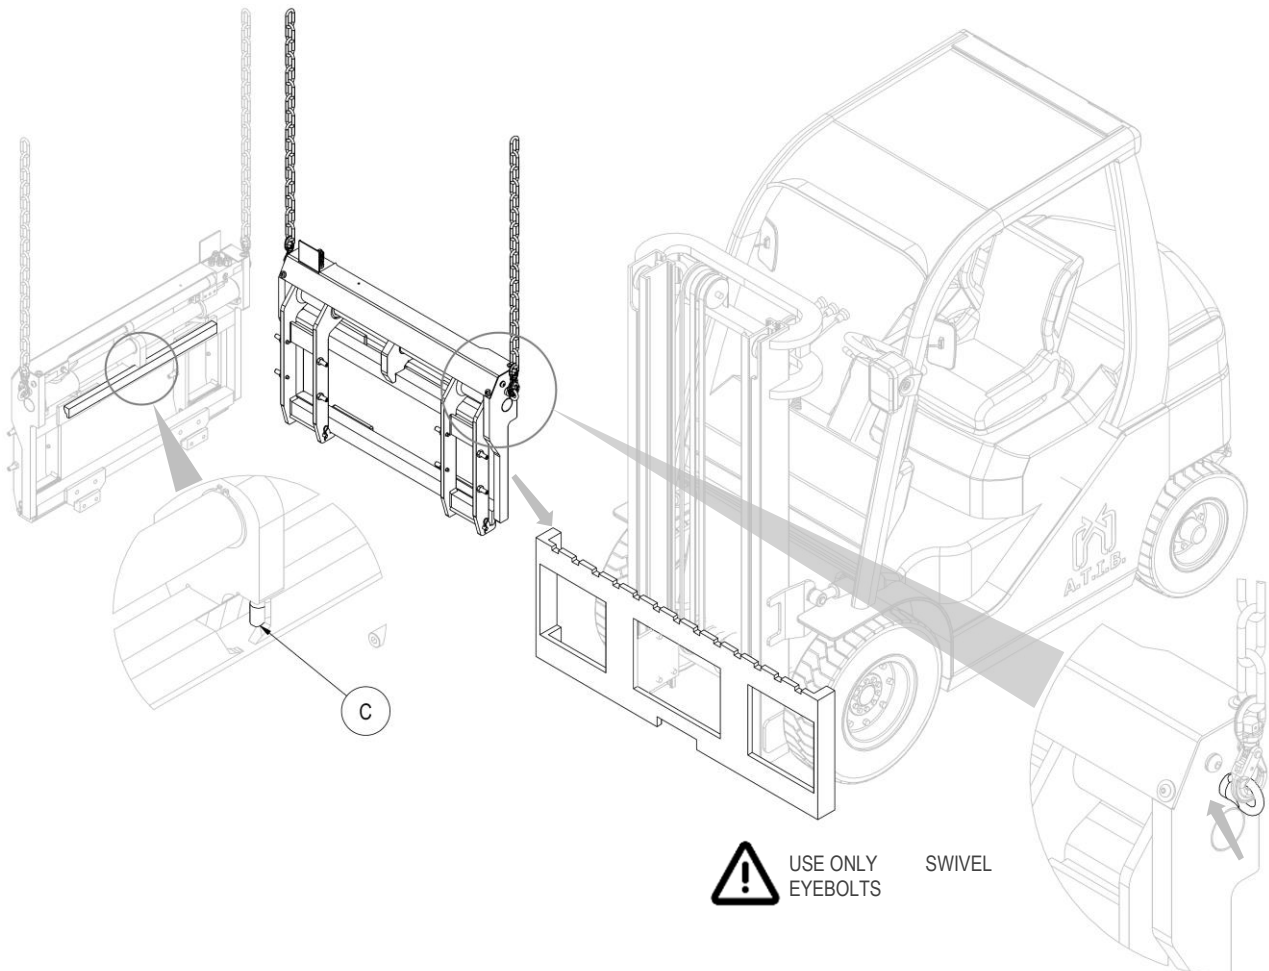

Figure 7
5. Only swivel eyebolts can be used for handling, which must be screwed into the holes provided on the sides (see detail *Figure 7*).
6. Then hook on the equipment by the eyebolts and use an overhead crane or hoist of sufficient capacity to position it on the fork carriage, taking care to fit the centring pin. **C** in its central notch (see detail *Figure 7*).